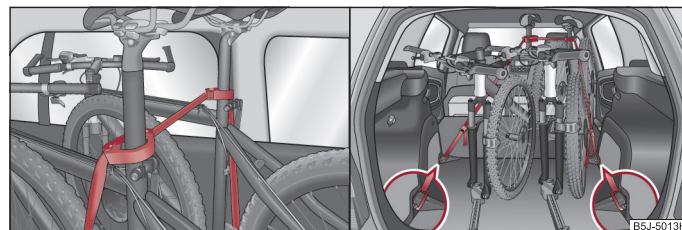

Fig. 71 Securing the bicycles with clamps / securing the bicycles with a strap
- Position the clamp with the rubber part to the front (in direction of travel) as far as possible below the saddle rod and close the clamp ⇒ **fig. 71**.
- When transporting two bicycles tension the strap ⇒ **fig. 71** between the saddle rods, by pushing the bicycles apart.